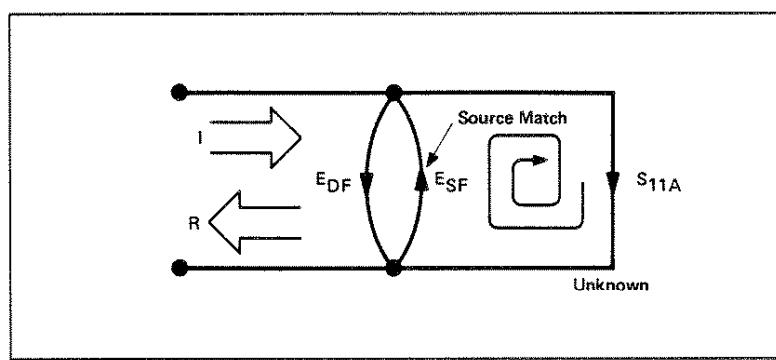

Figure 5-35
Since the measurement system test port is never exactly the characteristic impedance (50 ohms or 75 ohms), some of the reflected signal bounces off the test port, or other impedance transitions further down the line, and back to the unknown, adding to the original incident signal (I). This effect causes the magnitude and phase of the incident signal to vary as a function of S_{11A} and frequency. Leveling the source to produce constant (I) reduces this error, but since the source cannot be exactly leveled at the test device input, leveling cannot eliminate all power variations. This re-reflection effect and the resultant incident power variation are caused by the source match error, ESF (Figure 5-35).